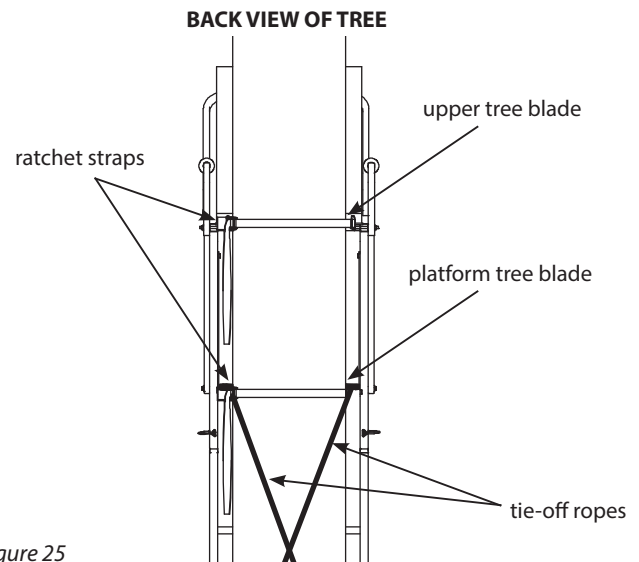

Figure 25
- e. Wrap the previously attached tie-off ropes hanging down from platform, around the back side of tree in opposite directions of each other. Pull the ropes snug and tie them to the ladder at the stabilizer bar height location. This ground level ladder-to-tree attachment will prevent the ladder from pulling away from the tree while ascending to top for final ratchet strap attachment. The same holds true when ladder removal is necessary. **SEE FIGURE 25. Be absolutely sure the tree blade(s) at the top and the stabilizer bar are all contacting tree.**